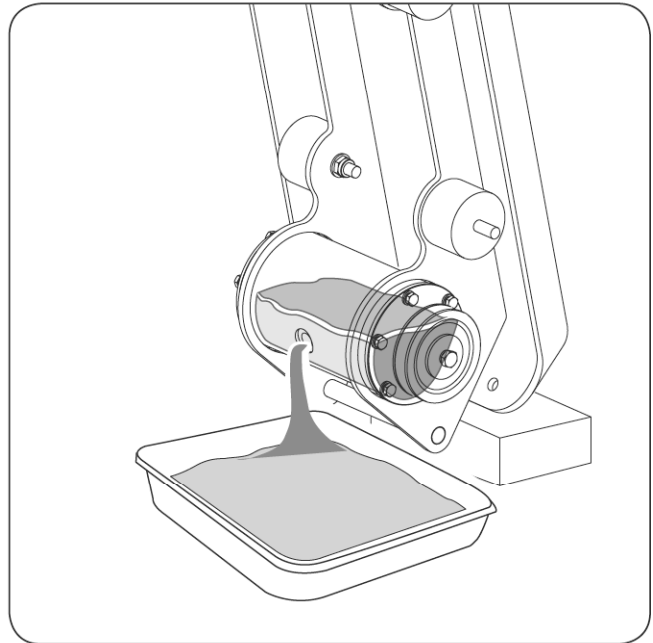

Figure 9b
5. Remove pipe plug from top of exciter housing. Tilt housing upside down so oil drains from exciter. Examine oil for metal chips as a precaution to future problems. (See **Figure 9b**)